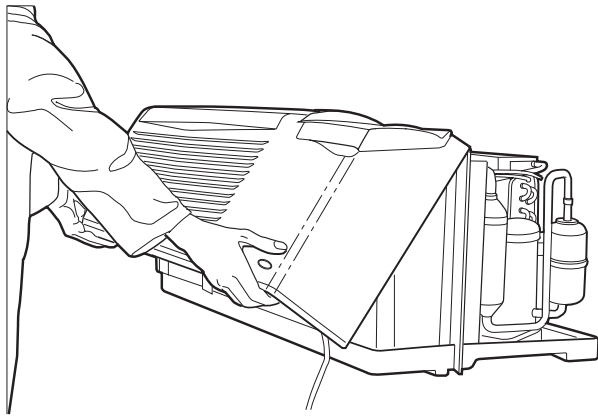

Fig. 2 — Removing Front Panel
Step 2 — Remove front panel from the unit by grasping the panel firmly near the bottom of both sides and pulling forward, then upward to release magnetic latches and partition hooks. See Fig. 2.